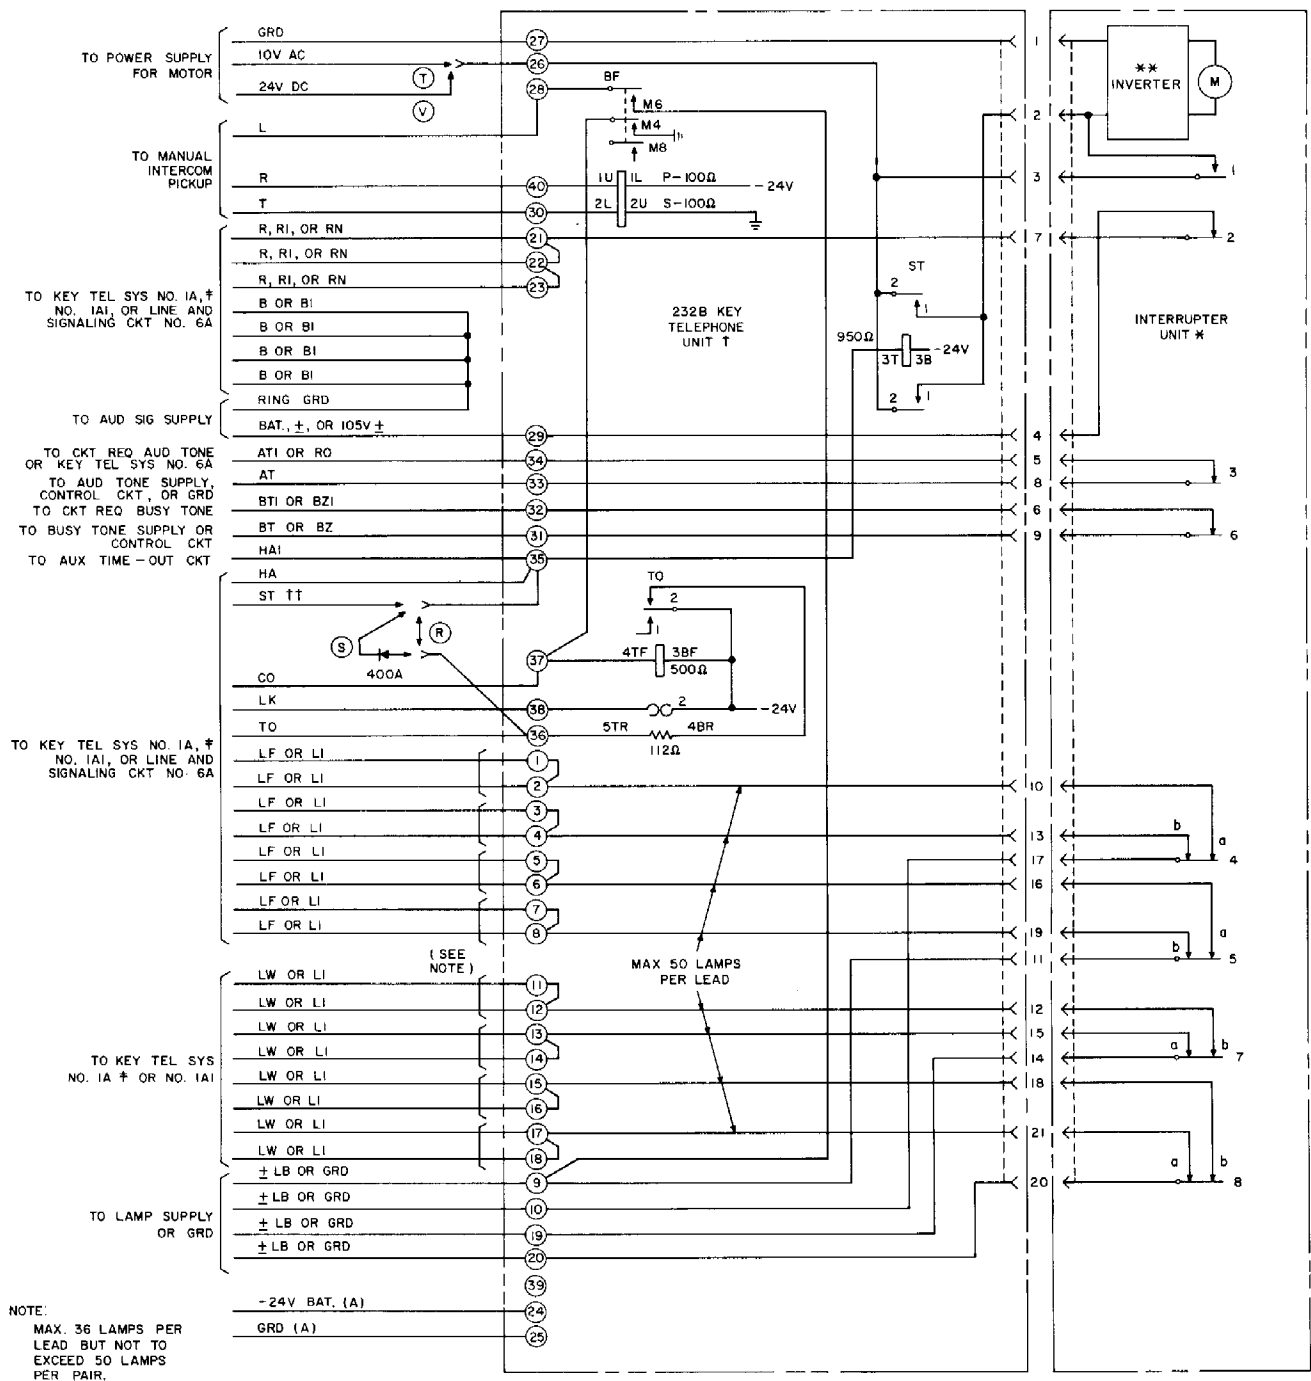

Fig. 2—Electromechanical Interrupter and Battery Feed Circuit
3.01 Fig. 2 shows connections to 232B KTU.